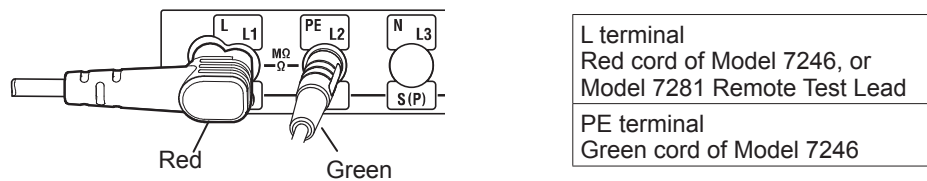

Fig.8-2
- (1) Select the continuity test by turning the rotary switch.
- (2) Insert the test leads to the L and PE terminals on KEW 6516/ 6516BT respectively as shown in Fig.8-2.